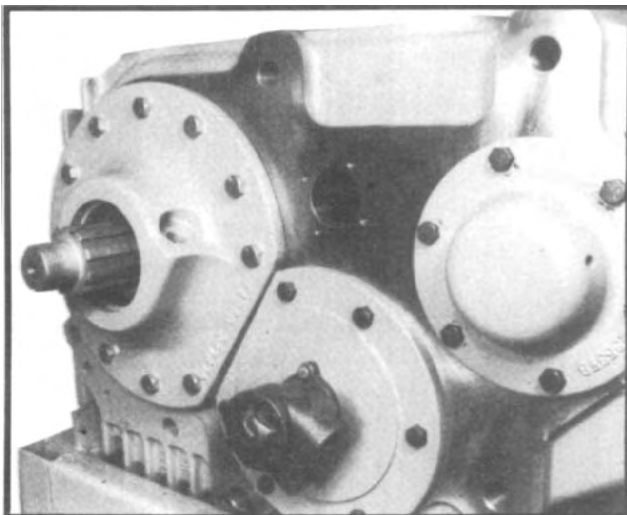

Fig. 109
- 1.15. Bolt rear output carrier to housing with the eleven capscrews. Tighten to correct torque. (See fig. 109)